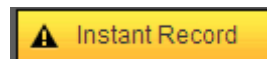

Figure 5-9
- Section 4: Instant record button. Click it, the button becomes yellow and system begins manual record. See Figure 5-9. Click it again, system restores previous record mode..